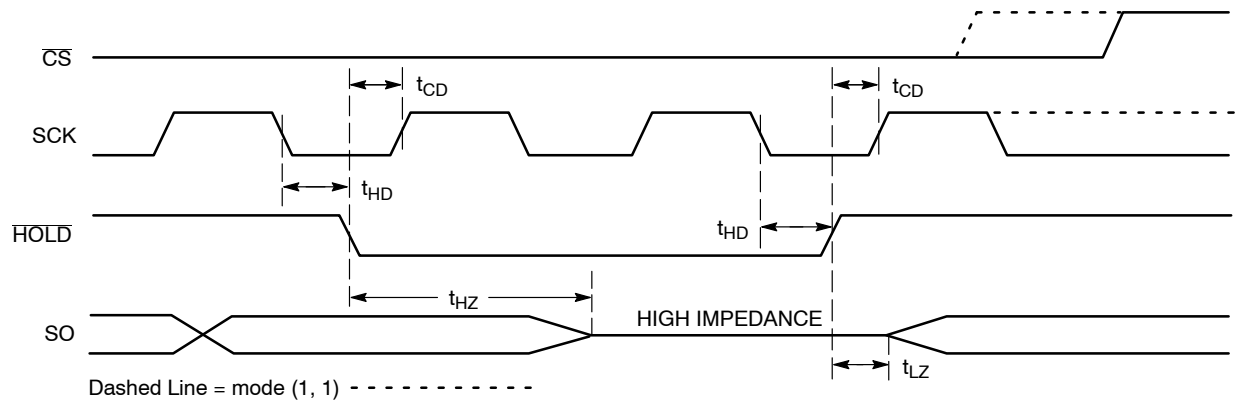

Figure 11. $\overline{\text{HOLD}}$ Timing
The $\overline{\text{HOLD}}$ input can be used to pause communication between host and CAV25640. To pause, $\overline{\text{HOLD}}$ must be taken low while SCK is low (Figure 11). During the hold condition the device must remain selected ($\overline{\text{CS}}$ low). During the pause, the data output pin (SO) is tri-stated (high impedance) and SI transitions are ignored. To resume communication, $\overline{\text{HOLD}}$ must be taken high while SCK is low.